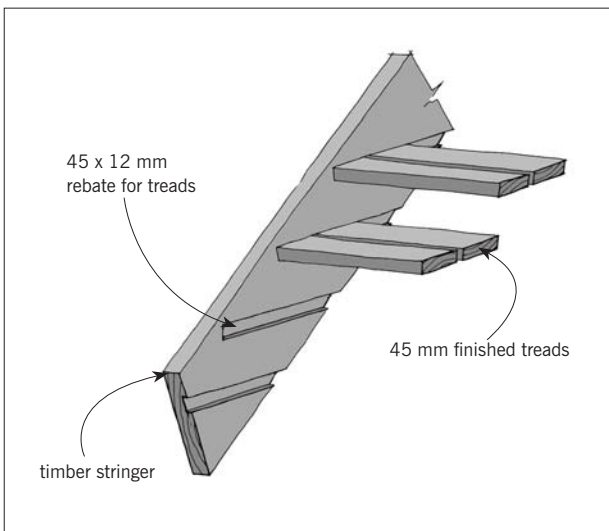

Figure 3. External stair using rebated stringer
5.0.5 Stringers may be sized using the joist tables from NZS 3604. Where the stringer is rebated to house the treads (Figure 3) the thickness of the stringer should be increased by the rebate depth.